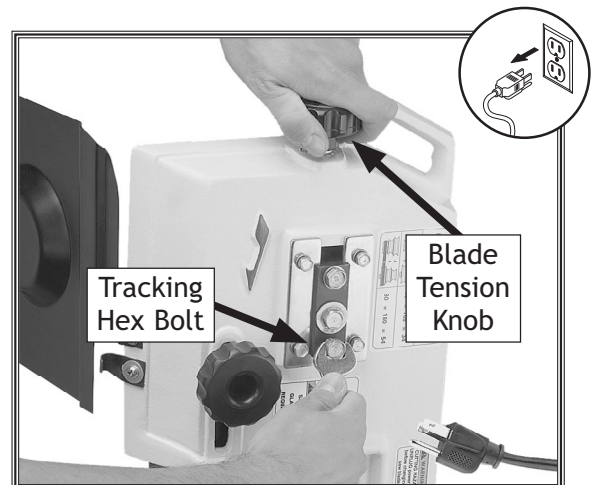

Figure 47. Adjusting the tracking hex bolt.
5. Use the blade tension knob to release the blade tension (see **Figure 47**).
6. Adjust the tracking hex bolt, as shown in **Figure 47**, then tighten the lower hex bolt loosened in **Step 4**.